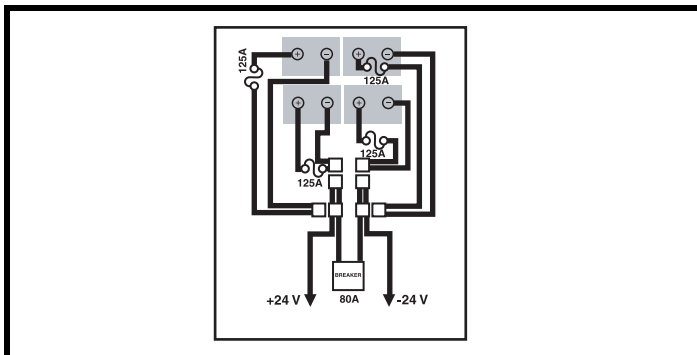

Figure 23. Battery Wiring Diagram (4 Batteries)
8. Disconnect the wiring harnesses from the batteries. See figures 23 and 24.